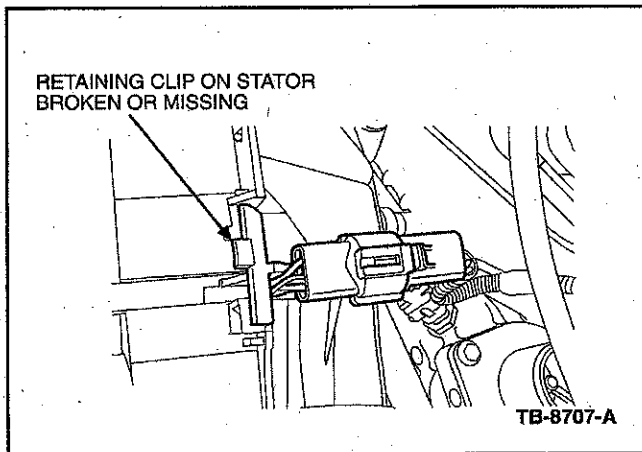

Figure 1 - Article 07-1-4
1. A cut wire harness will prevent proper fan clutch operation. The harness may be cut because the molded-in retaining clip on the fan stator that secures the harness to the stator is broken or missing, allowing the loose harness to move into the rotating fan (Figure 1). If the harness is damaged or severed, replace the Cooling Fan Clutch Assembly per the Work Shop Manual, Section 303-03.